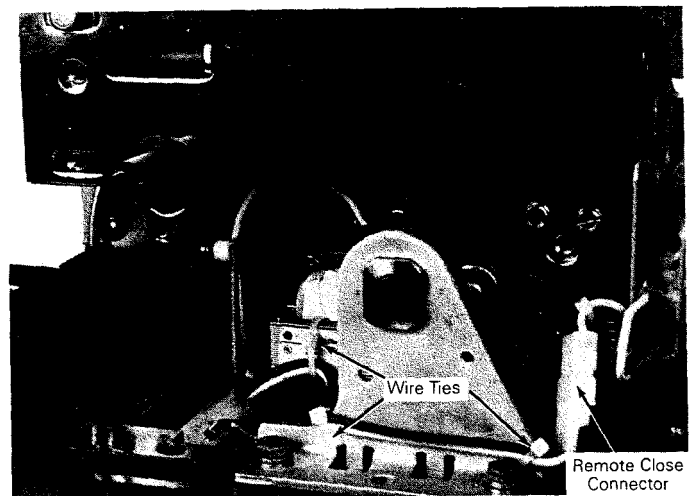

Figure 4. Routing of the Remote Close wiring and the locations of the wire ties.
9. Attach the wire connector to the mating color-coded (brown and yellow) wires, as shown in Figure 4. The mating wires are secured to the breaker frame at the factory with a wire tie. The wire tie may have to be removed to allow the wires to connect.
10. Route and tie the wires as shown in Figure 4. Use two ties and ensure that the wires do not interfere with any moving parts in the mechanism. Check that the wires are not in a position to be pinched by or interfere with the reinstallation of the breaker top cover.